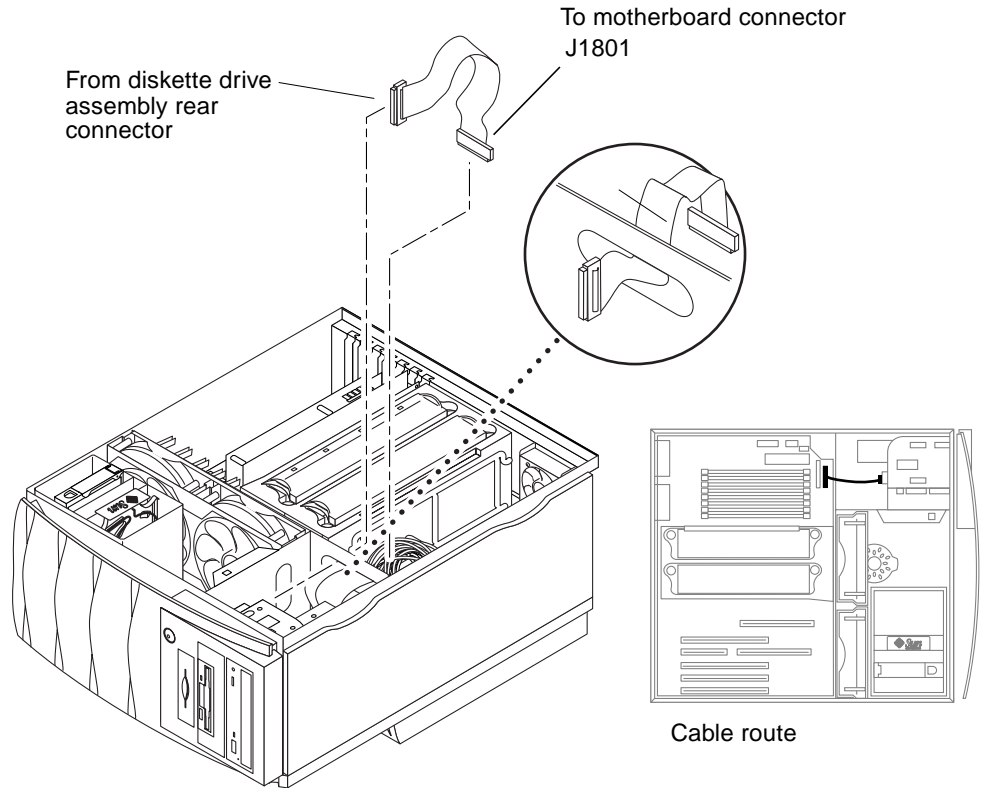

FIGURE 6-8 Removing and Replacing the Diskette Drive Cable Assembly
3. **Disconnect the diskette drive cable assembly as follows (FIGURE 6-8):**
1. **Position the diskette drive cable assembly in the chassis** (FIGURE 6-8).
2. **Connect the diskette drive cable assembly as follows** (FIGURE 6-8):